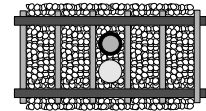
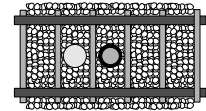
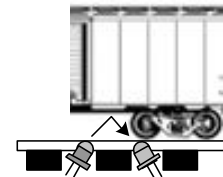

Figure 3a
Figure 3b
Figure 3c
The *Block Animator* (BA) provides automatic operation of two 3-color block signals in a semi-prototypical way. Four pairs of Infrared (IR) emitters and detectors are used for bidirectional train detection. Detection is achieved when the IR beam from the emitter reflects off the underside of the train back down to the detector. **Despite the use of infrared components you could still encounter false triggering from overhead lighting. This is usually eliminated with angled sensor mounting (Figure 3c) and/or proper sensor sensitivity adjustment (page 4). This version of the BA must be powered from either a 7-9V AC or 9-12V DC power source (such as our 12VPSR). Do NOT exceed these limits!** The layout of the signals and IR components is illustrated at left below; the illustration on the right is a side view of the IR detection method.
The IR components should be mounted between the rails. Drill two 11/64" holes, approximately 1/4" apart, through the ballast, roadbed, and sub-roadbed. For the smaller scales this drilling may end up hitting the ties. Take your time so you don't mangle them! Figure 3a illustrates the suggested placement of the IR components between the rails; you may also locate them a tie apart from each other (Figure 3b). Insert the leads of one IR emitter (white and black wires) into one of the holes (it doesn't matter which one!) from the top of your layout. Repeat for the IR detector (blue and black wires). The tops of the components should sit no higher than the top of your ballast for optimal IR performance; in some cases (e.g. false triggering) it may be necessary to locate the components a little below the ballast line. You can extend the leads with similar (or larger) wire. We recommend soldering and insulating these connections. Once you have wired the IR components and verified their operation you may wish to put a dab of white glue or silicone caulk where the wires exit the holes underneath the layout. This will help to hold the components in place; make sure you don't get any substance (e.g. ballast or glue) on the top surface of the IR components as this may prevent them from operating properly. **Figure 3c is a variation of Figure 3b. In this case the IR components are mounted at an angle to each other. The benefit of this method is reduced false triggering from overhead light and increased detection reliability in smaller scales or irregular bottoms on rolling stock.** The spacing between the outer sensors (W1 and E1) and inner sensors (E2 and W2) depends upon how long of a signal "block" you wish to define for each signal. However, keep in mind that there is a 35 second timeout that the BA uses. This means that if it takes more than 35 seconds for a train to activate the nearest inner sensor after clearing an outer sensor then the BA will think the train has actually backed up and exited the block!